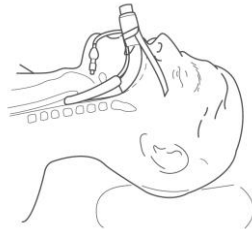

Figure 12: Tape the device into place, ensuring that the proximal end of the airway tube is pointing caudally.
8. Connect to a gas supply, holding the tube, to prevent displacement. Gently inflate the lungs to confirm correct placement. Tape the device into place, ensuring that the proximal end of the airway tube is pointing caudally (Fig.12). When correctly placed, the tube should be pressed back into the palate and posterior pharyngeal wall. For device Size 1, 1.5, 2 and 2.5, insert a roll of gauze as a bite-block (ensuring adequate thickness) before taping the device into place.